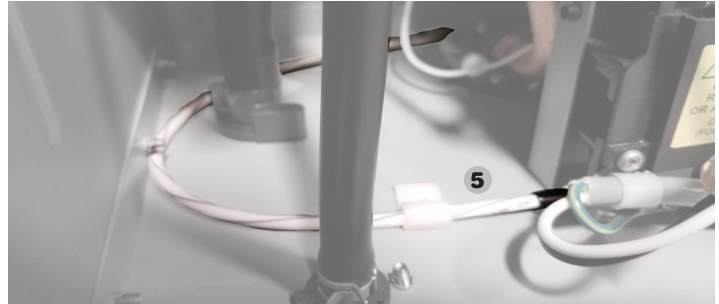

Figure 5.
5. Create a loop on the left side of the Gas Tankless Water Heater passing through the left side of the condensing tubing and concluding with the tip of the sensor under the water heater main electronic control board. As shown in Figure 5.